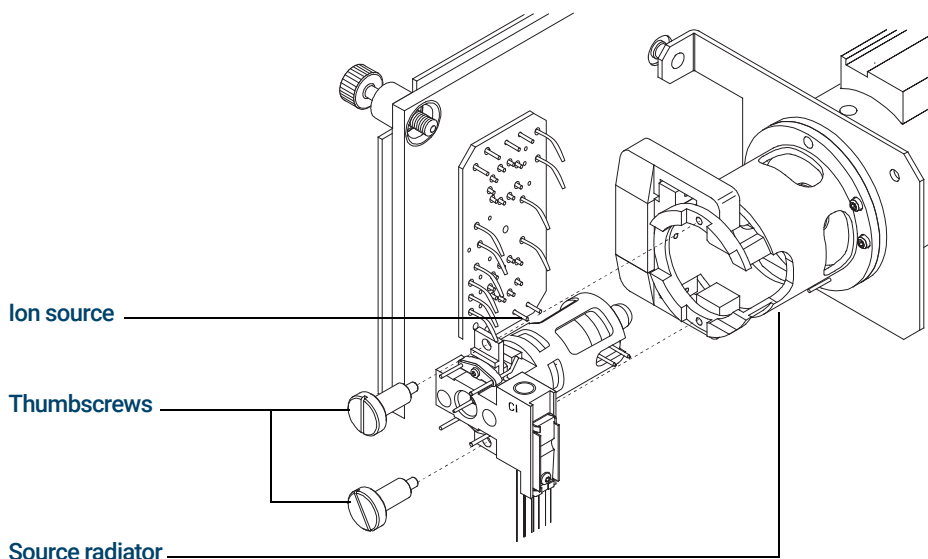

Figure 77. Installing the CI source
- 3 Slide the CI source into the radiator. (See **Figure 77**.)
- 4 Install the thumbscrews. (See **Figure 77**.)